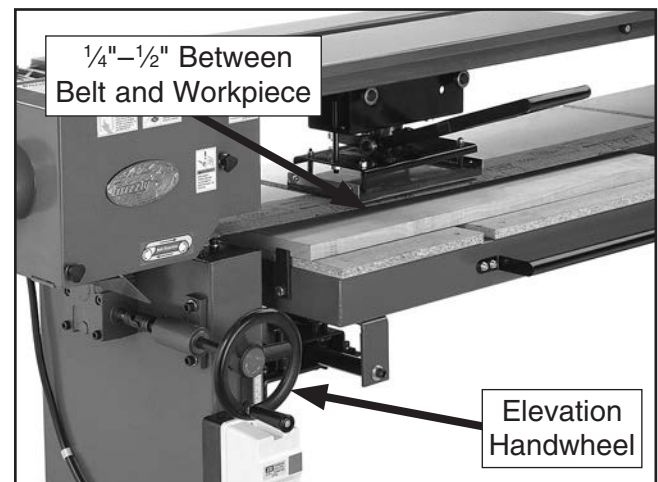

Figure 32. Vertical table movement.
2. Turn the table elevation handwheel to raise the table until the workpiece is $\frac{1}{4}$ "– $\frac{1}{2}$ " below the sanding belt (**Figure 32**).